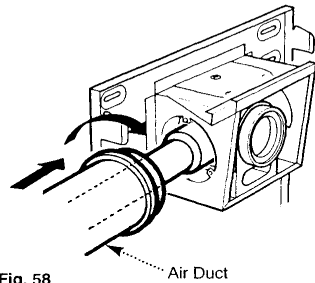

Fig. 58
4. Engage the bayonet slots of the air duct over the location lugs on the back plate opening and press and turn clockwise to secure the air duct to the back plate (Fig. 58).